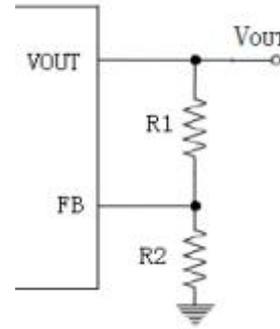

Figure 1 Voltage Divider Resistor for Output Voltage Setting
The output voltage of the FHT3860 is set by an external feedback resistor divider as shown in equation (1), and the voltage regulator circuit is shown in Figure 1.